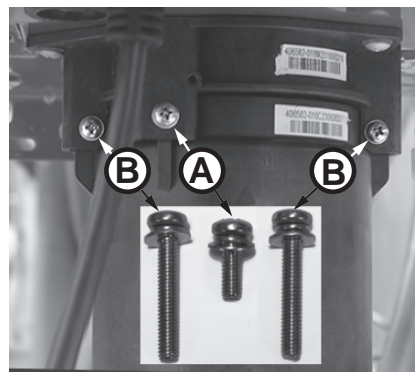

Figure 193 - Identify cartridge screws
- 5 Locate the three (3) screws securing the X3®/Bypass cartridge as shown in Figure 193. Remove the **(A)** M4-12mm screw and the two **(B)** M4-25mm screws from cartridge. Place screws aside in a safe place for reinstallation.